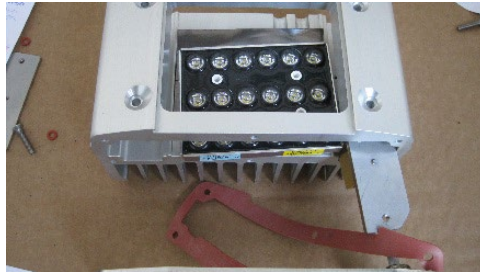

Fig: 7
v) feed the LED board up in to the head and ensure that the thermal pad is in position with holes aligned. Insert and tighten screws W-404 and line up the lens clamp threaded holes with the screws, Partially tighten, See Fig: 7. Fit bottom plate and tighten the six screws, vi) Re-assemble as per iii, iv and v from Glass Lens Replacement.